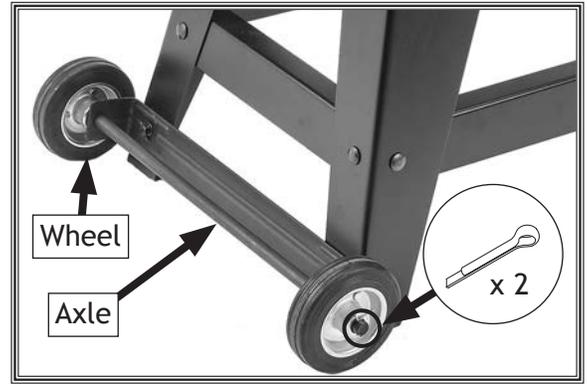

Figure 9. Wheels attached to axle.
7. Slide axle through holes in wheel-mounting bracket (see **Figure 9**).
8. Slide wheels onto axle on outside of mounting brackets, and secure them with (2) cotter pins (see **Figure 9**).